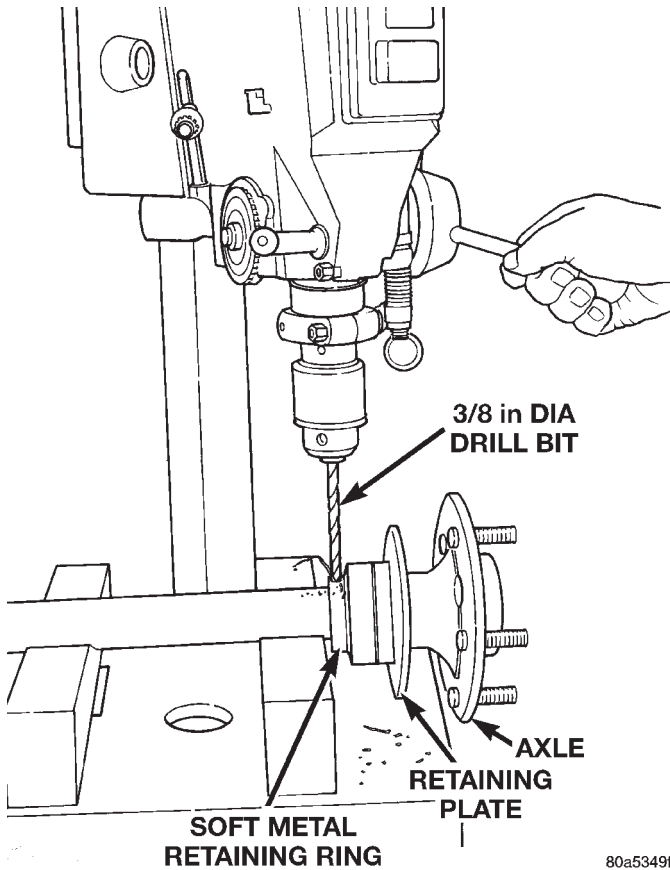

Fig. 25 Drill Retaining Ring
- (1) Remove axle shaft from vehicle.
- (2) Using a 3/8 in. dia. drill bit, drill a shallow hole into soft steel axle bearing retaining ring (Fig. 25). If possible, use a drill depth stop to avoid marking axle.